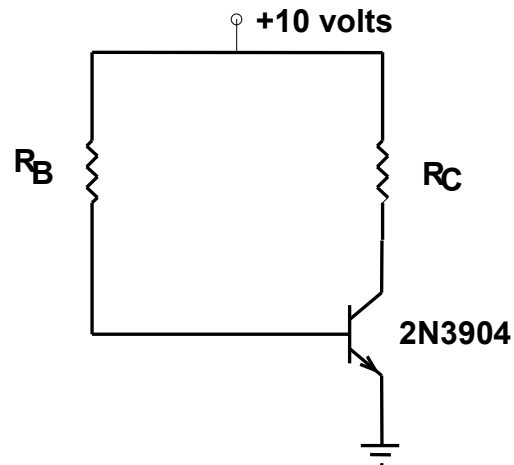
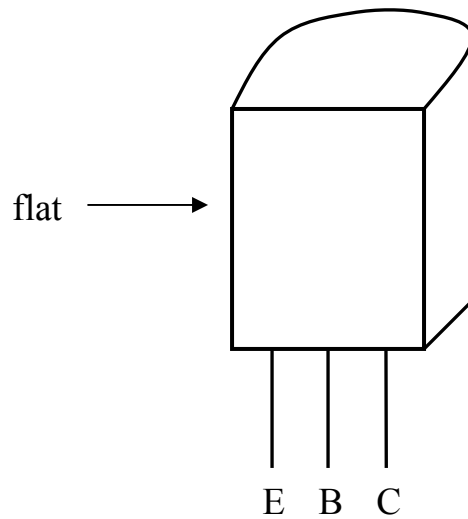

Figure 1. Basic BJT Biasing Circuit
Figure 2. View of 2N3904 npn BJT
1. The voltage measured between the collector and ground in Figure 1 is 3.72 volts. What is the DC current gain (β) of the BJT in this circuit? (Assume $V_{BE} = 0.7$ V)
2. What is the smallest value of the R_B which will allow the BJT in Figure 1 to remain in the forward active region ($V_C > V_B$)? As R_B becomes smaller than this value, what region is the BJT operating in? (Hint: first find I_C and I_B)
3. You can force the BJT in Figure 1 into cutoff by adding another resistor from the base to ground. Assuming that the BJT is cutoff if $V_{BE} \leq 0.3$ volts, find the *maximum* value of this new resistor that will cause the BJT to operate in the cutoff region.
You have two 2N3904 BJTs in your parts kit. So that you can distinguish between them, cut the leads on one of the BJTs a *little* bit shorter. Name each BJT (Q_1 and Q_2) and note in your lab book which BJT has the shorter leads. Construct the circuit shown in Figure 1. Measure and record the values of both resistors, as usual. *Note:* Sometimes the emitter, base, and collector leads are labeled on the package or case of the BJT. If they are not labeled, refer to Figure 2.
e. Get the can of refrigerant from the instructor and cool the BJT in Fig.1 using a 1 second blast. Have your lab partner measure the maximum value of V_{CE} . Repeat the experiment and determine $\max[V_{BE}]$. Calculate β for this BJT when it is cold. **Is this transistor within specification (see attached data sheets)? Would you want this circuit in your car stereo on a cold winter morning? Discuss this in your lab report.**
f. Replace the 309 k Ω resistor in Figure 1 with another resistor which forces the BJT into the saturation region. Refer to the Prelab, question 2. Write the value of R_B you have chosen in your lab book and **describe your choice in the lab report.**